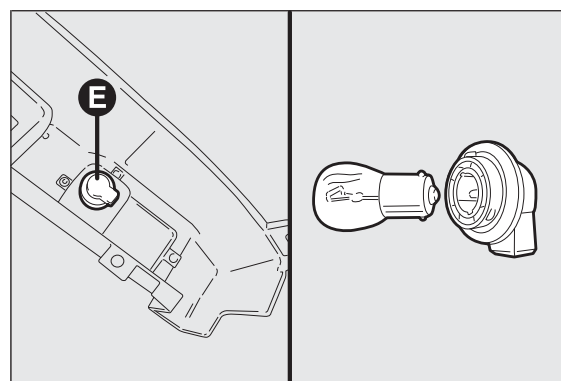

fig. 203
- ☐ turn bulb holder E anticlockwise (1/8 of a turn), remove the bayonet-fitted bulb by pushing gently and turning anticlockwise, then replace it fig. 203.